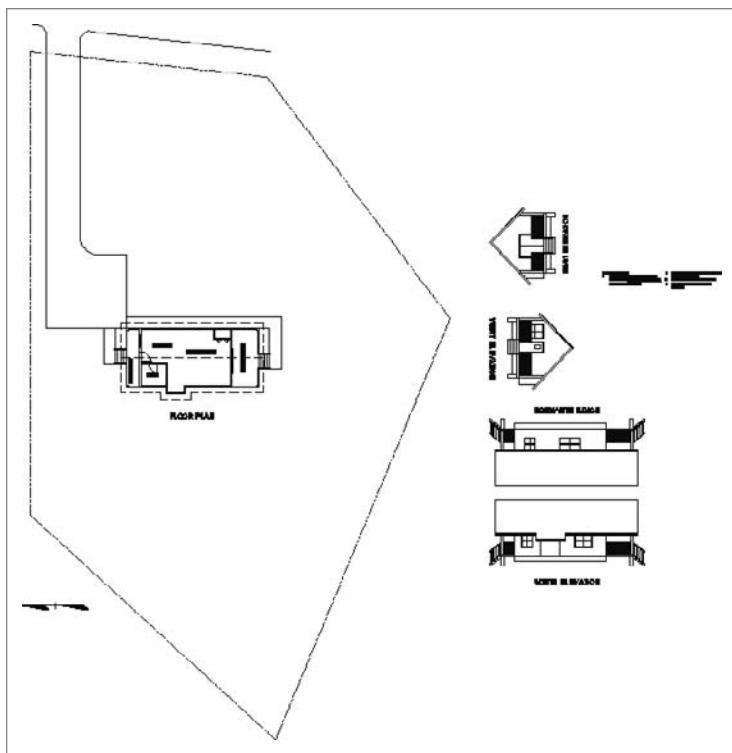

FIGURE 13.27 The 13C-SPLAY2 drawing with the revised xref of the site plan
10. Use Zoom To Extents, and then zoom out a little to a view of the whole site (see Figure 13.27). Save this drawing. It's still named 13A-FPLAY2.dwg.